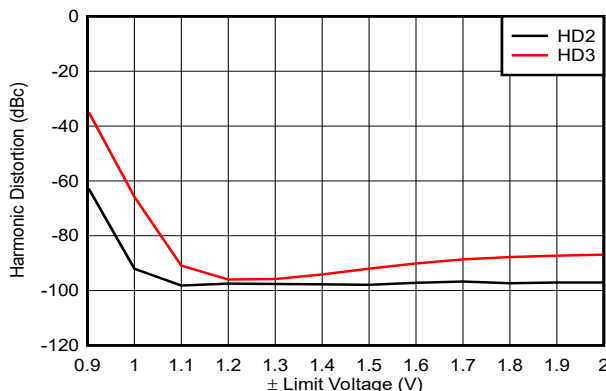

Figure 8-2. Harmonic Distortion Near Limit Voltages
- The limiter offset voltage only slightly degrades limiter accuracy. Figure 8-2 shows how the limiters affect distortion performance. Virtually no degradation in linearity is observed for output voltage swinging directly up to the limiter voltages.